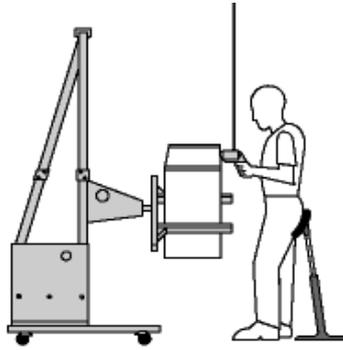

Figure 5a
- Use jigs and vices to hold the work object steady at the right height and position for optimum comfort (Figure 5a).